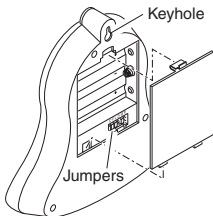

Figure 3
- Chime can be wall mounted by using keyhole located on rear of chime (see Figure 3). Use screw and wall anchor as needed to fasten mounting screw to wall. Leave approximately 1/8" gap between wall and mounting screw head. Place chime on mounting screw.